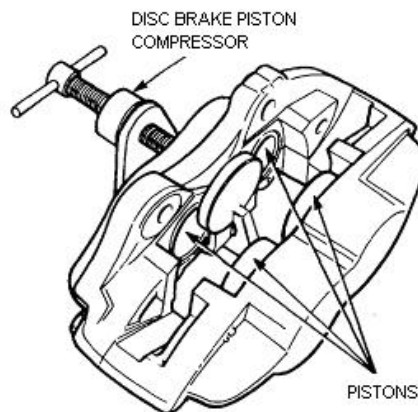

Figure 111 Special Tool Rim Half Disassembly
- b. Install a disc brake piston compressor (Table 3, Serial 12) to retain both the pistons in the mounting-flange half of the caliper (Figure 111).